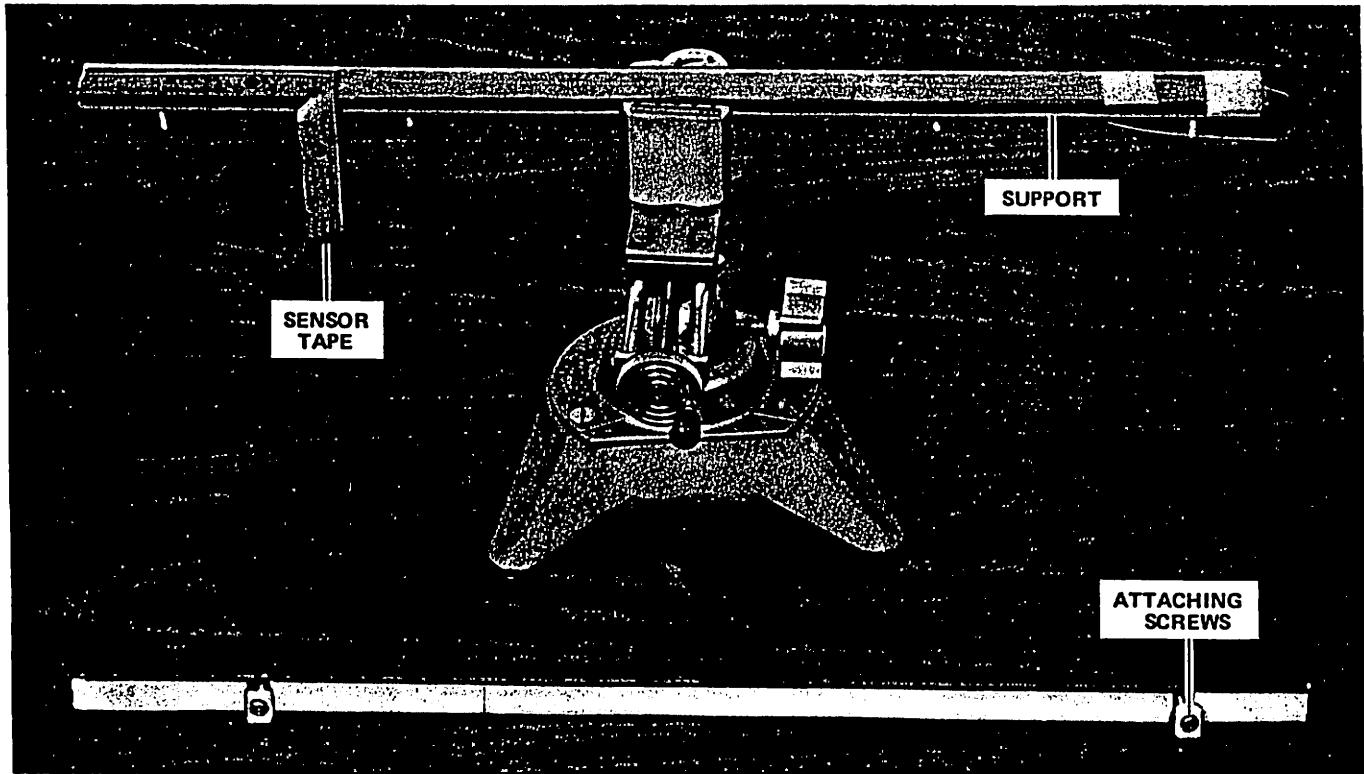

FIGURE 8-3 SENSOR REMOVAL
3. Unscrew the two screws that attach the sensor to the top support (Figure 8-3).